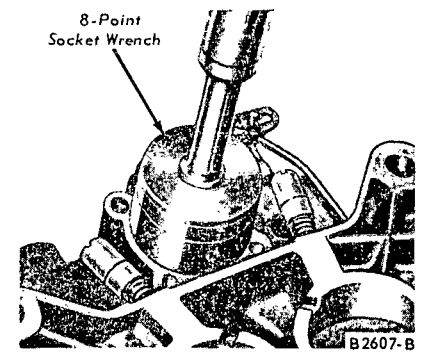

FIG. 22—Power Valve Removal or Installation
8. Invert the main body and remove the power valve cover and gasket. Using a socket wrench or box wrench, remove the power valve and gasket (Fig. 22).
8. Invert the main body. Using a socket wrench or box wrench, install the power valve and new gasket (Fig. 22). **Tighten the power valve securely.** Install the cover and new gasket.